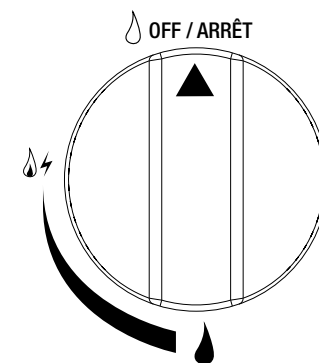

Figure 3
1. Make sure the control knob is in the "OFF" position (Figure 3).
2. Make sure control knobs are in the "OFF" position (Figure 3).
3. Control knob must be in the "OFF" position (Figure 3).